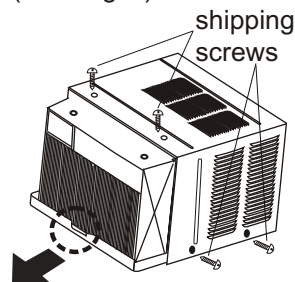

Fig.5
7. Remove shipping screws from top of unit and also on the side by the base if installed (see Fig.5).